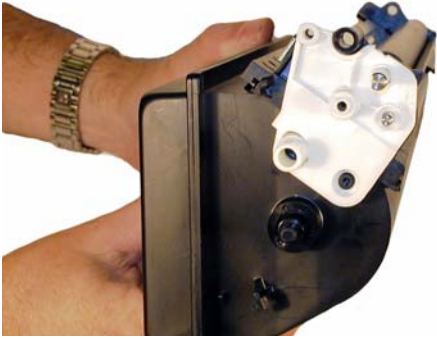

Figure 50
44) Install the white plastic alignment plate on the gear side See **Figure 50**